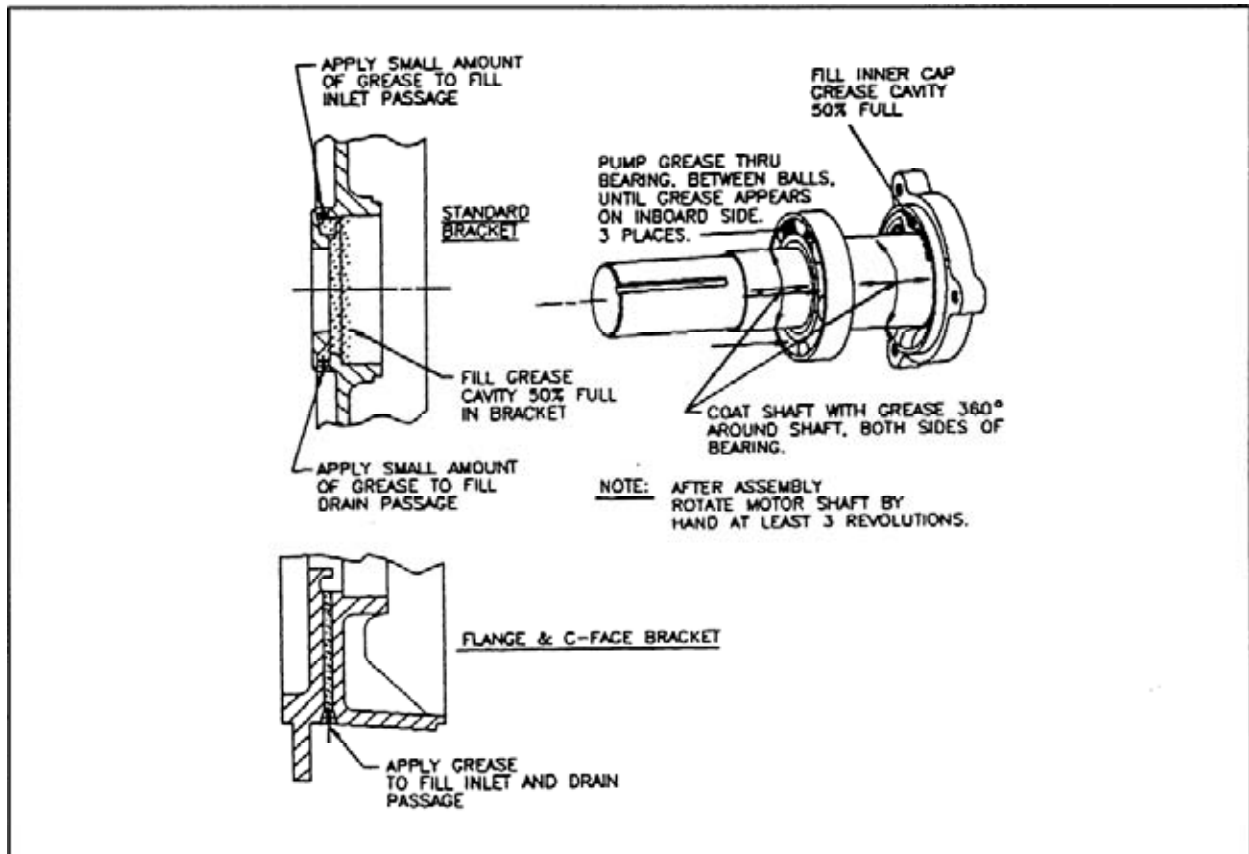

Figure 1 – All Standard and Flanged Brackets
1. Apply the correct type of grease per DOD-G-24508 as shown in Figure 1 to each bracket, bearing and inner cap. Taking care to see that the bearing ball cage is packed with grease. If the motor has inlet grease pipes, fill them with grease.